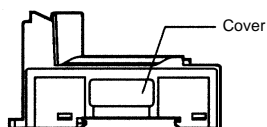

Figure 1
1. Remove the cover from the side of the SRT1-T□D04S. (See Figure 1.)